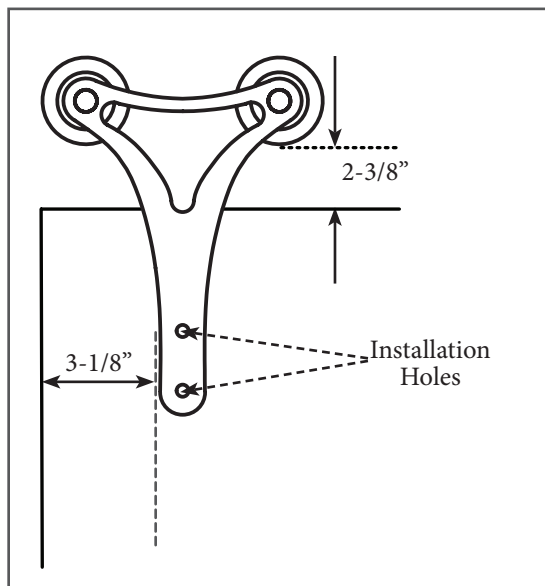

Figure 2
3. Adjust the placement of the hanger for a 2-3/8" gap between the top of the door and the bottom edge of the wheel. Ensure the base of the hanger resting on the door is 3-1/8" from the edge of the door (Figure 2).
4. Mark the center of each installation hole with a pencil. (Figure 2).